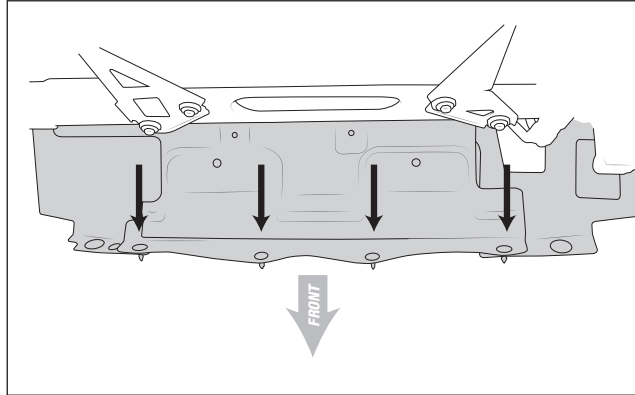

Figure 3
2. Remove the four push pins holding the lower shroud to the bumper (fig. 3).